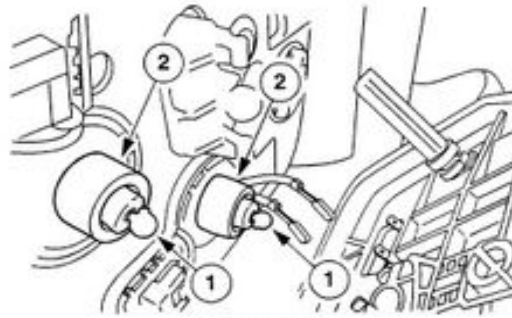

FIGURE 6
3. To install the jackscrews and sealing boots (refer to Figure 6).